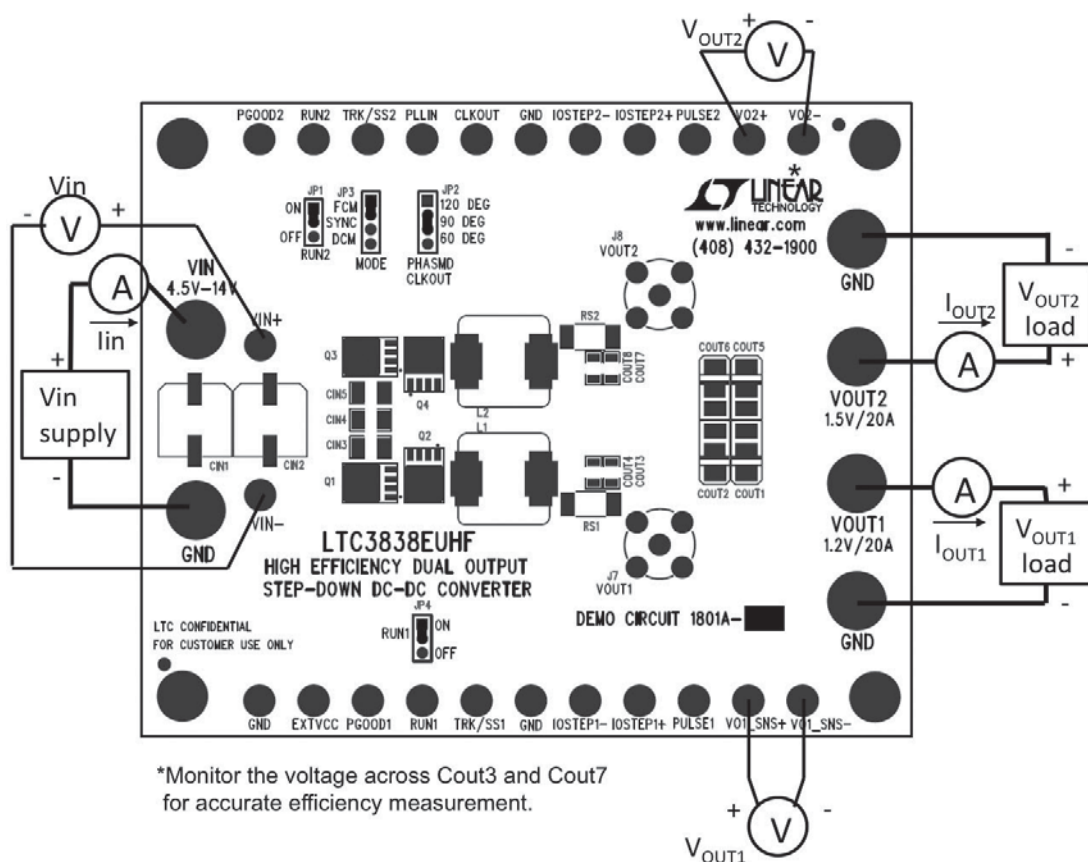

Figure 1. Proper Measurement Equipment Setup
Demonstration circuit 1801A is easy to set up to evaluate the performance of the LTC3838EUHF. Please refer to Figure 1 for proper measurement equipment setup and follow the procedure below.
- 1) With power off, connect the input supply, load and meters as shown in Figure 1. Preset the load to 0A and V_{IN} supply to be 0V. Place jumpers in the following positions: